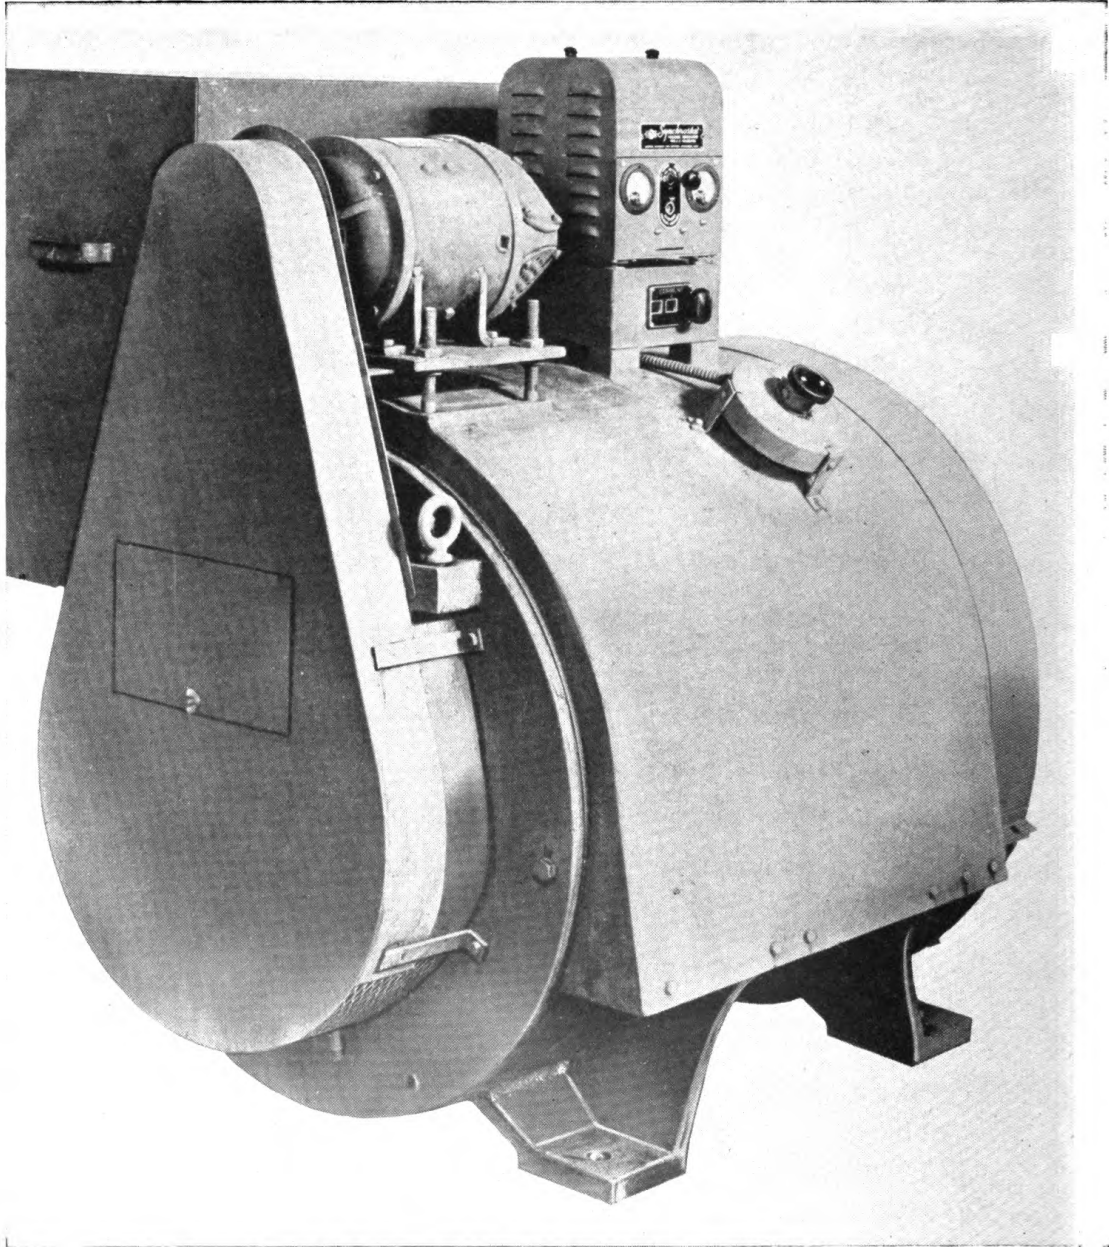

FIG. 1—Synchronous Generator Complete
- Figure 1 Synchronous Generator Complete.